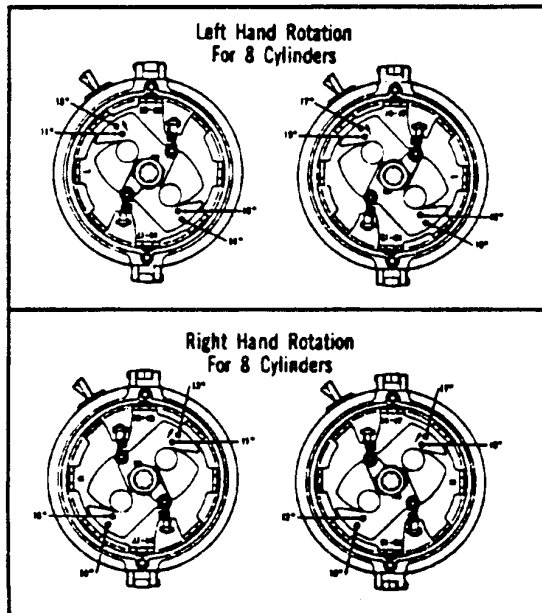

Figure 3
1. By using the diagram (Figure 3), determine which hole the stop screw should be located in and which direction the arrow should be pointed for your distributor advance specification. For example, if you require advance of 14° (28° engine) and your distributor is right-handed rotation (clockwise), the stop screw would be placed in the bottom hole marked 14° and the "S" plate will be installed with the arrow pointing to the 10°-13° indication on the stop bracket. If you need to change from the factory setting, proceed.